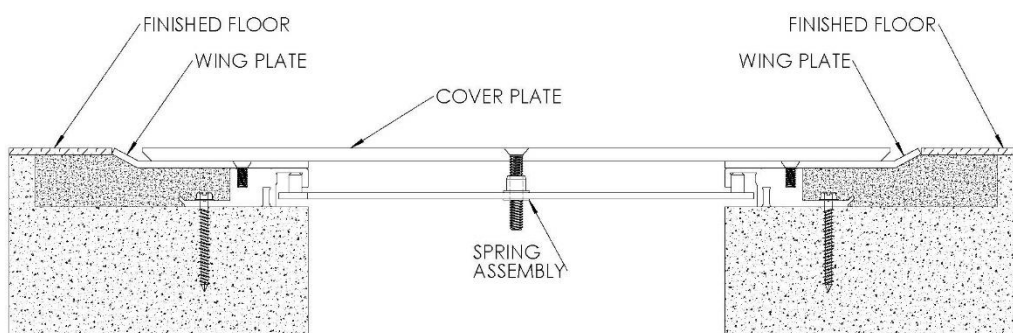

FIGURE 7
7. Position the cover plate centered over the base frame and with the center hole aligned with the spring assemblies. Attach the cover plate to the spring assemblies with the provided spring screws. **DO NOT OVERTIGHTEN. See Figure 7**